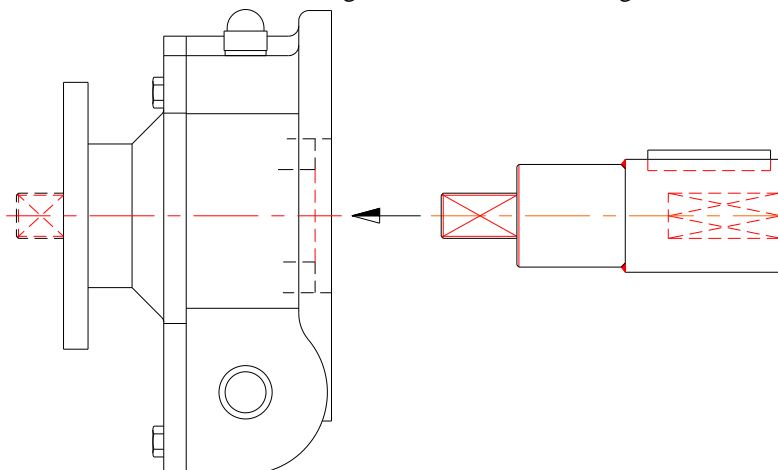

figure 1 : assembly of driveshaft into gearbox ILG/S
8. Put the driveshaft from the bottomside into the gearbox (see figure 1). The size and shape of the connections of the driveshaft and the gearbox can differ from figure 1.